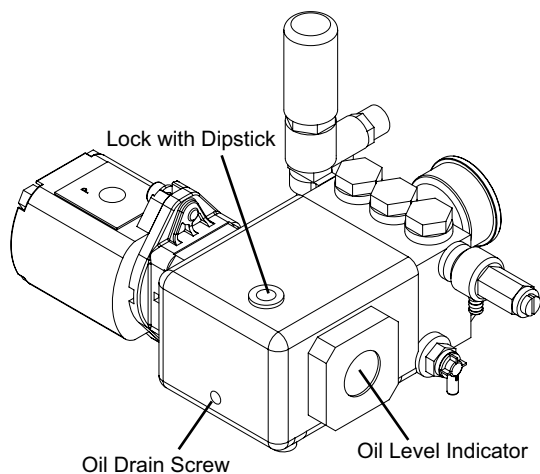

Figure 15
- Remove the dipstick from the lock (Figure 15).
- Remove the oil drain screw (Figure 15).
- Pour in the fresh oil through the lock (Figure 15).
- Fill the fresh oil up to the middle line of the oil level indicator (Figure 15).